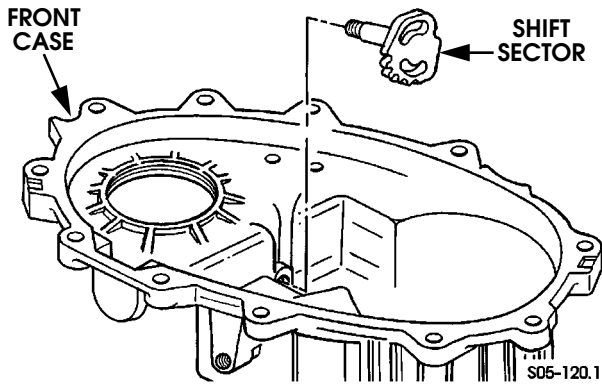

Figure 5-136: Shift Sector Installation
2. Lubricate shift sector shaft and install sector in case (Figure 5-136).